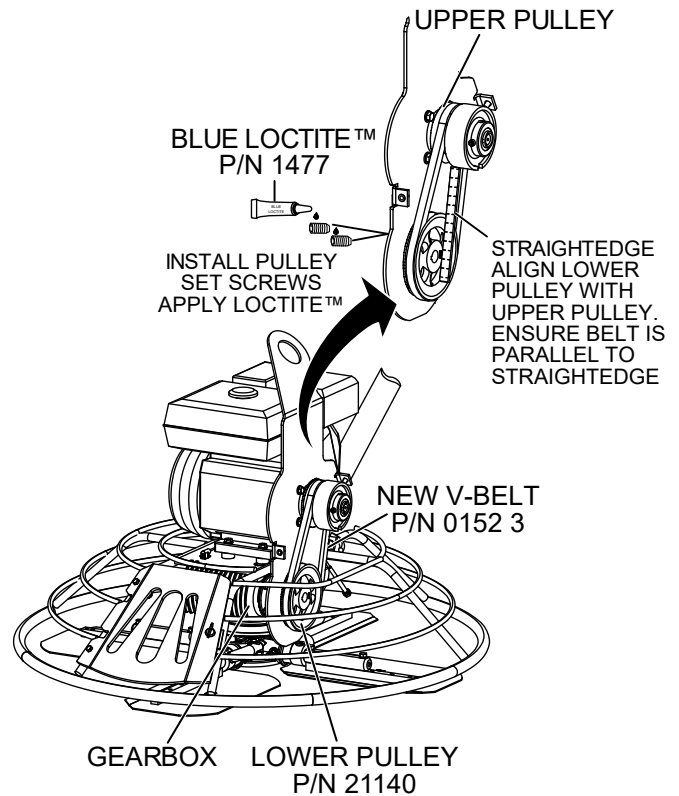

Figure 6. Install New V-Belt
- Install the new V-belt (P/N 0152 3) by placing it over the upper pulley and rotating the lower pulley (P/N 21140) until the V-belt slips into the lower pulley groove. See Figure 6.
- Using a straightedge, align the lower pulley (P/N 21140) with the upper pulley. Verify that the V-belt (P/N 0152 3) is parallel to the straightedge. See Figure 6.